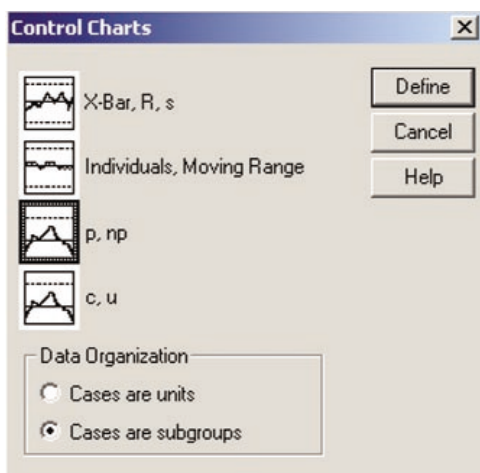

FIGURE A18.6 SPSS Control Charts Dialog Box
1. In the Control Charts dialog box (see Figure A18.6), select the **p, np** button and the **Cases are subgroups** option button. Click the **Define** button.